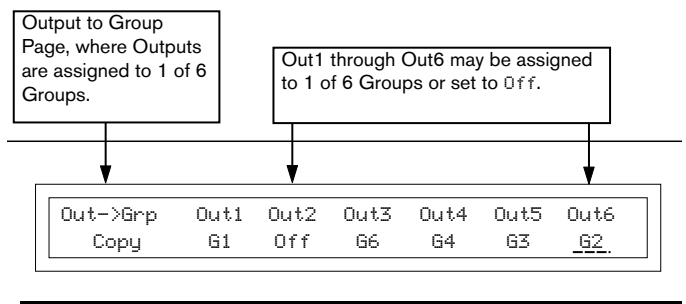
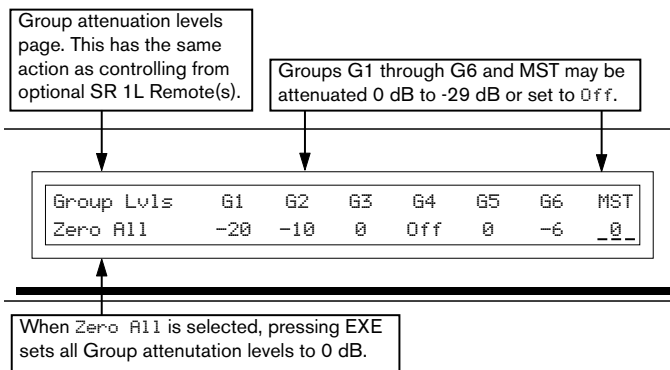
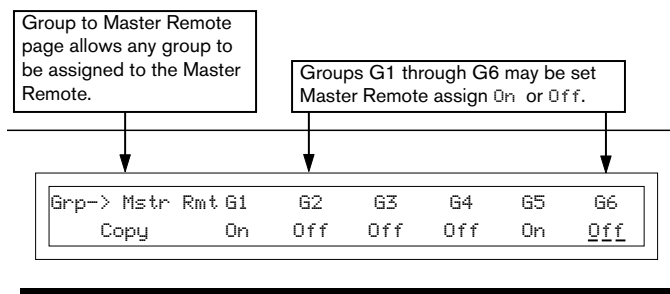
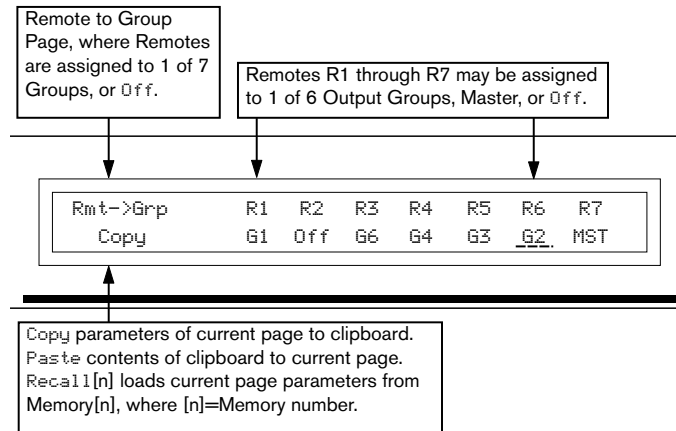

Figure 2. Output to Group Edit Page
Figure 3. Group Levels Edit Page
Figure 4. Group to Master Remote Assign Page
Figure 5. Remote to Group Assign Page
- ⑤ **REMOTE INTERFACE PORT (RIP).** This Port supports up to seven optional SR 1L "Smart" digital Remote controls as seen in Figure 4 on page Manual-5. Each Remote may be assigned to adjust the Level of any one of the six SRM 66 Output Groups or the Master Group.
- ⑥ **OUTPUT GAIN switches.** These assist setting the optimal gain structure of the Output stage, depending on what the following device would like to see (or hear). Balanced signals usually require a +4 dBu setting (button *out*), and unbalanced signals usually require the -10 dBV setting (button *in*).
- ⑦ **OUTPUTS.** These balanced Euroblock connectors may be wired balanced or unbalanced. See page Manual-1 or RaneNote 110, "Sound System Interconnection" later in this manual for assistance.
- ⑧ **INPUT GAIN switches.** These assist setting the optimal gain structure of the Input stage, depending on the level from the previous device. Balanced signals usually require a +4 dBu setting (button *out*), and unbalanced signals usually require the -10 dBV setting (button *in*). Use the MIX INPUT HEADROOM meters as a guide for determining GAIN switch position (see ① in the Front Panel Description).
- ⑨ **INPUTS.** These balanced Euroblock connectors may be wired balanced or unbalanced. See page Manual-1 or RaneNote 110, "Sound System Interconnection" elsewhere in this manual for assistance.
The Output to Group Assign page is shown in Figure 2. Outputs can be assigned to 1 of 6 Output Groups or no Group (*off*). For example, a stereo Output pair would typically be assigned to the same Output Group in order to ensure that the two stereo Outputs limit together and are controlled by the same Output Group Level. Output Group Levels may be controlled from the Group Level page shown in Figure 3 or by any SR 1L remote assigned to the Group on the Remote to Group page shown in Figure 5.
The Group to Master Remote assignment page is shown in Figure 4. Any number of the six (6) possible Output Groups can be assigned to the Master Group. The Level of all Output Groups assigned to the Master Group can be controlled by the MST control on the Group Level page shown in Figure 3 or by any SR 1L remote assigned to the Master Group on the Remote to Group Assign page shown in Figure 5. This feature
Each SR 1L Remote must have a unique address (1-7). Any of the possible seven (7) Remotes may be assigned to any one of the six (6) possible Output Groups, to the Master Group or set to off. See the Remote to Group Assign page in Figure 5. If a Groups level is altered by one of the SRM 66s Group Level controls (Fig. 3), then every Remote assigned to that Group is updated to reflect the new setting. If a Group Level is adjusted by a Remote, then the SRM 66’s Group Level page is updated to reflect the new setting.